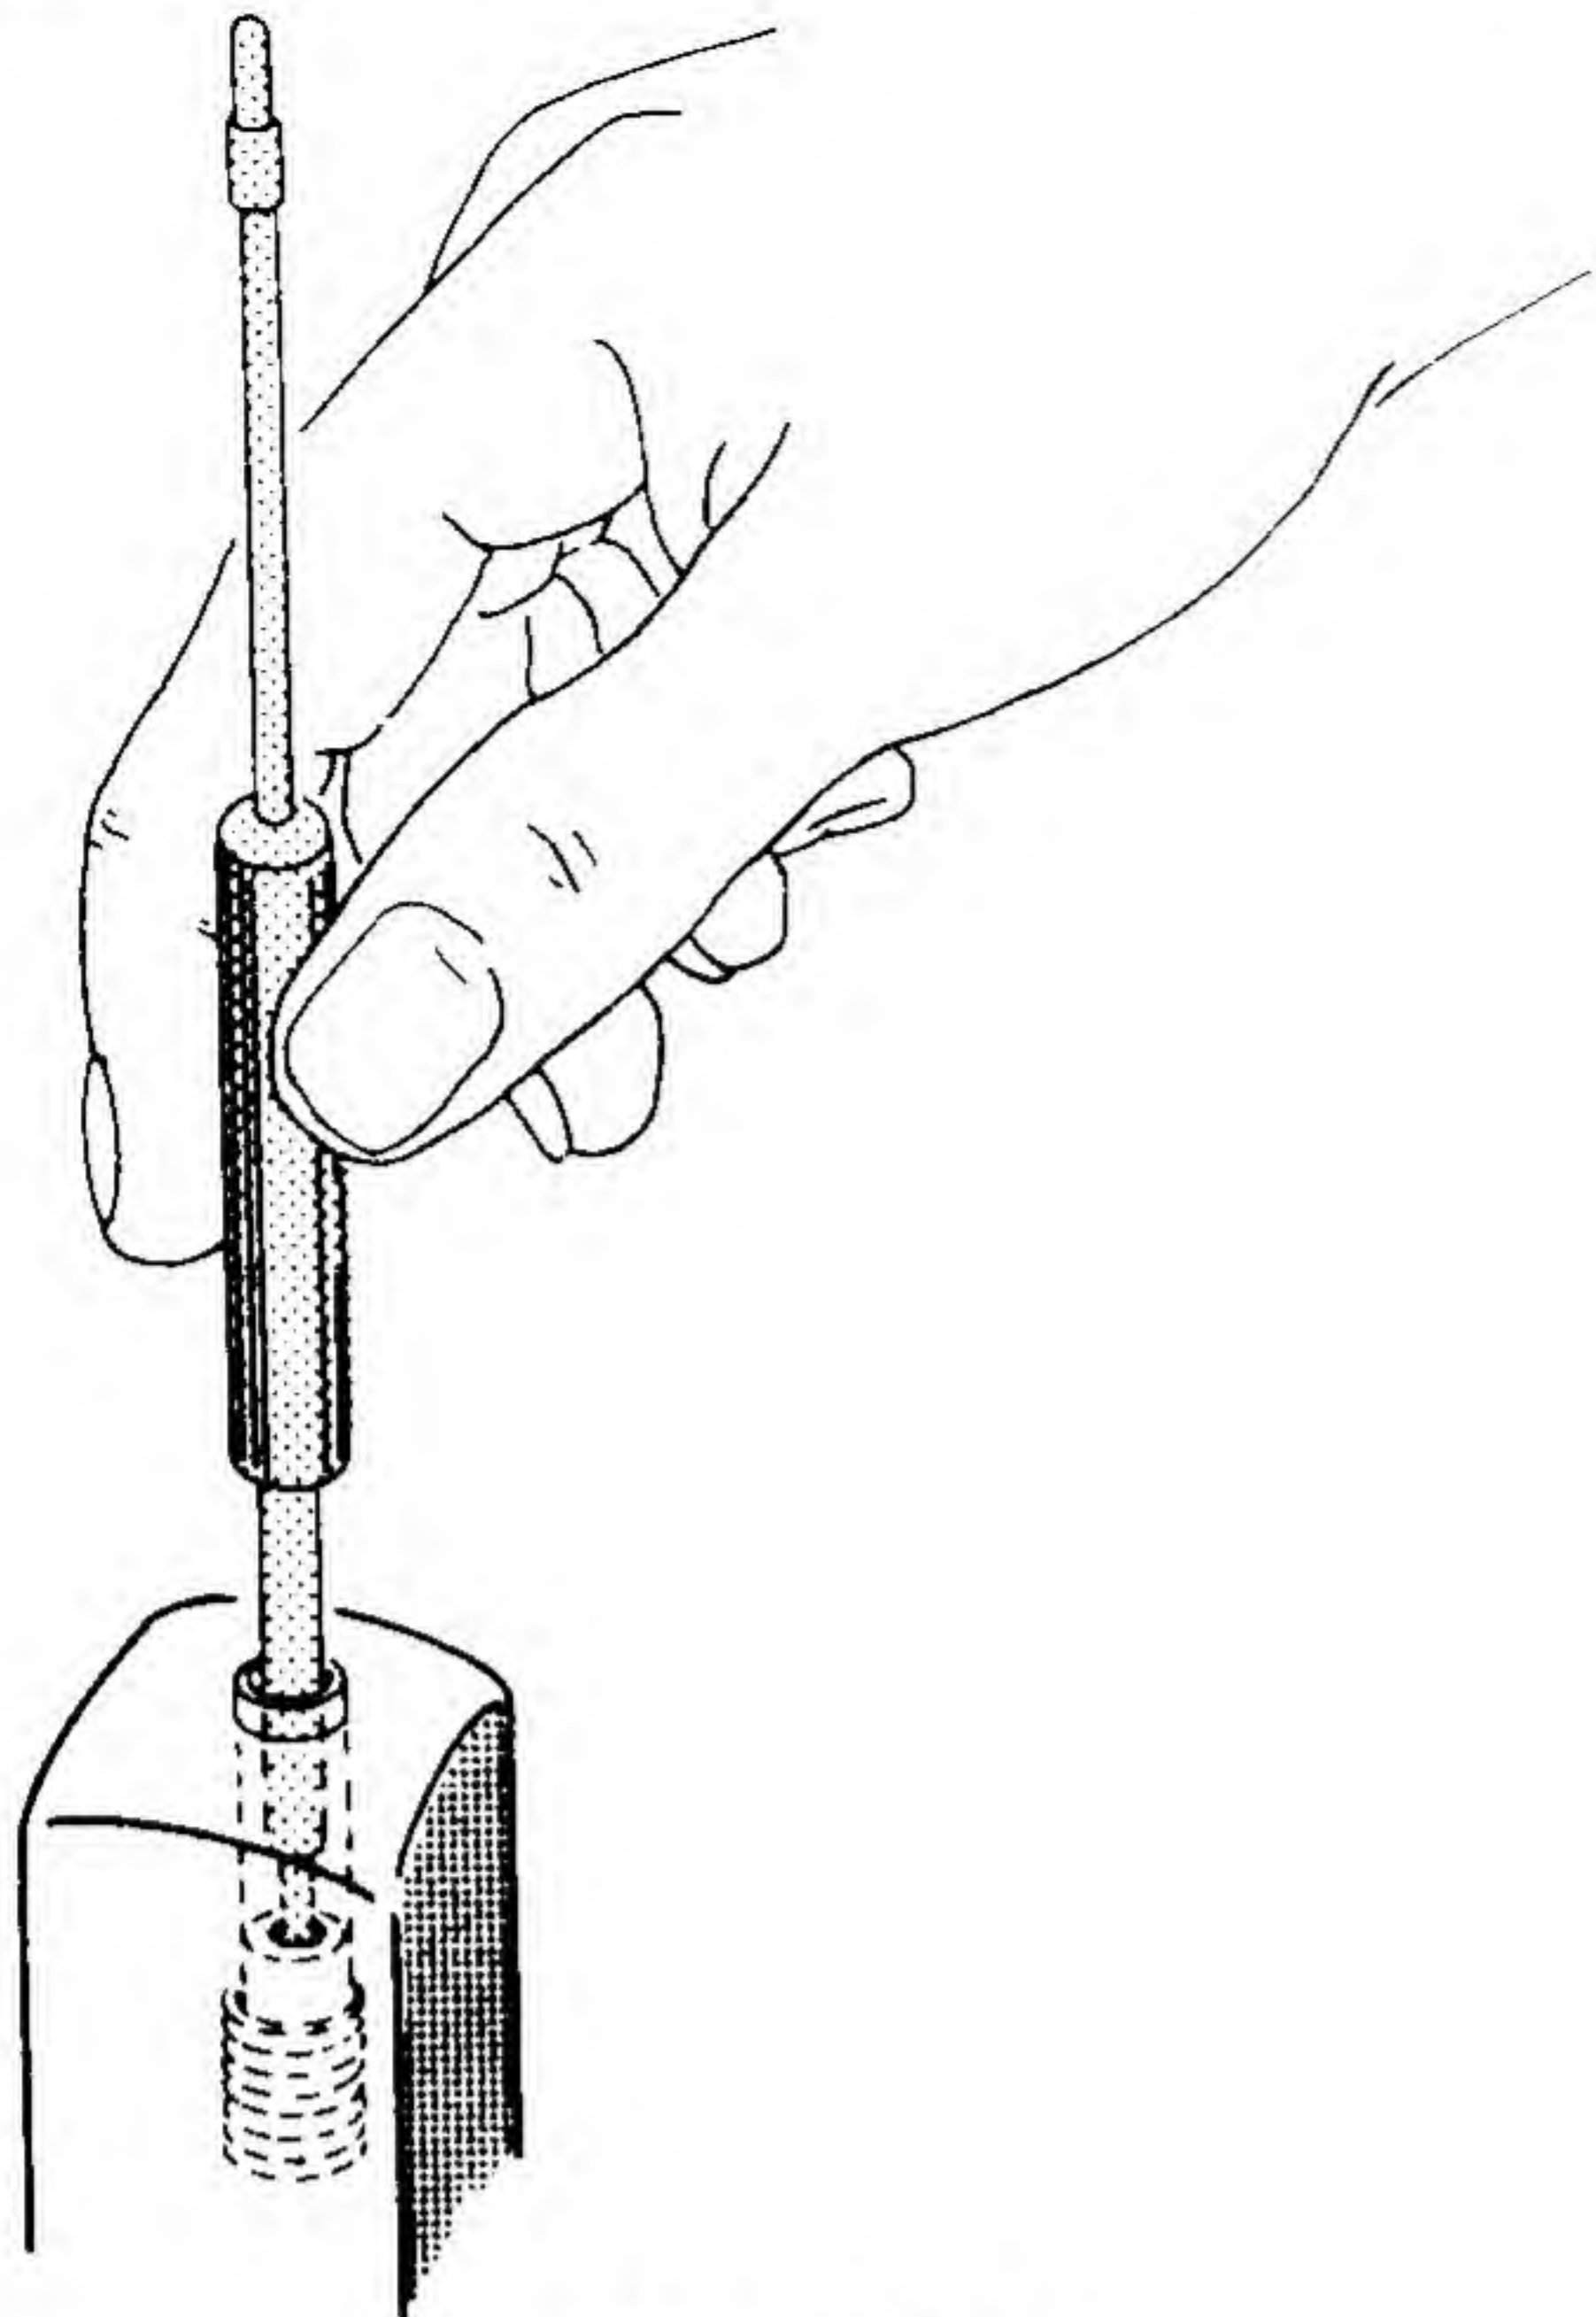

Figure 8-1
- () Refer to Figure 8-1 and insert the alignment tool in coil L8. Be sure the hexagonal end of the tool engages the hexagonal hole in the coil. Rotate the tool in both directions until you secure a peak indication on the VTVM, which should be more than -1.5 VDC. Then turn the coil slug 1/8 turn counterclockwise.